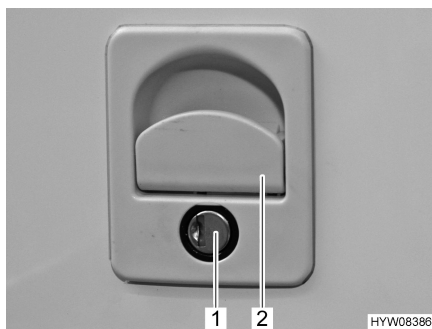

Fig. 17 Flap lock with recessed handle
- Insert key into locking cylinder (Fig. 17,1) and turn a quarter turn in an anti-clockwise direction. The flap lock is unlatched.
- Pull on the lock handle (Fig. 17,2). The external flap is open.